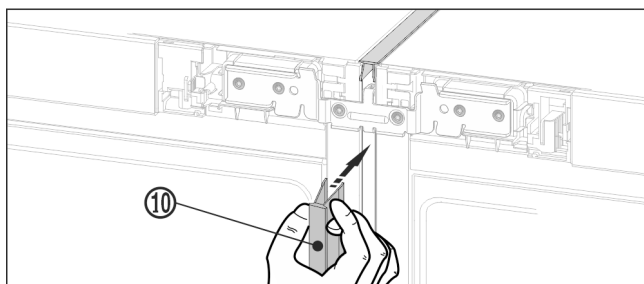

Fig. 22
- ▶ On the front press the long cover strip Fig. 22 (10) into the vertical gap. Ensure that the strip rests on the connecting plate.